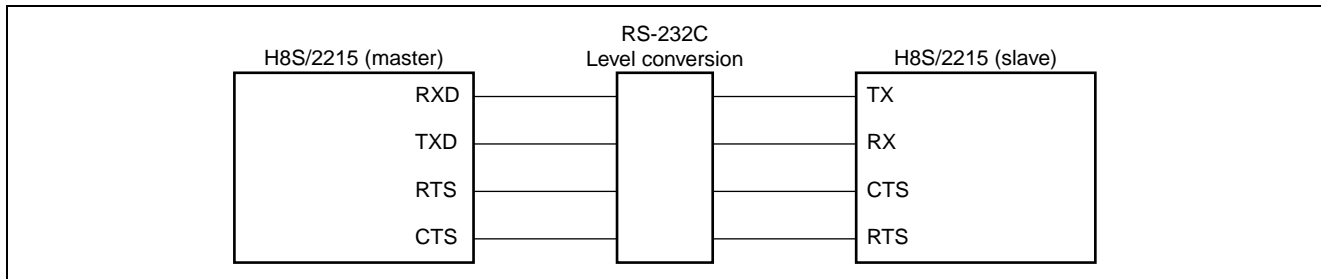

Figure 1 Block Diagram of Asynchronous SCI by H8S/2215
1. As shown in figure 1, this function sends and receives 1-byte data in the asynchronous mode between an H8S/2215 and H8S/2215.